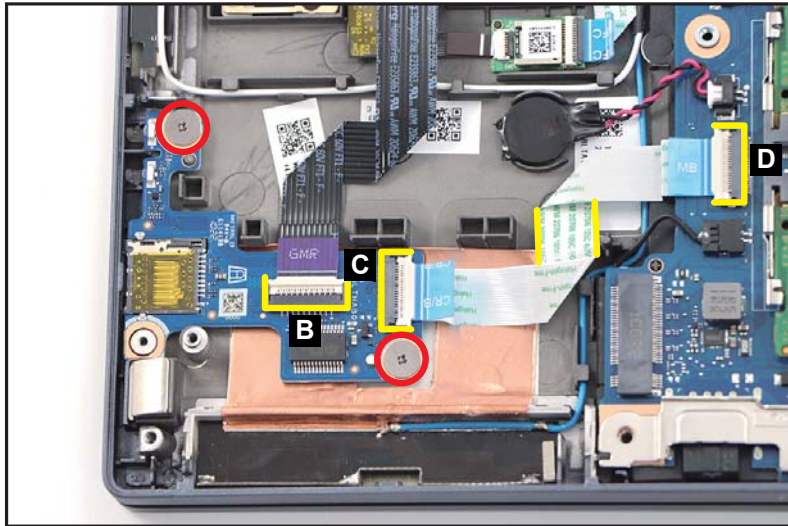

Figure 1-32. Card Reader Board Removal
2. Disconnect the smart card reader FFC from the card reader board connector (B) (Figure 1-32).
3. Disconnect one end of the card reader board FFC from the card reader board connector (C). Then disconnect the other end of the FFC from the mainboard connector (D) (Figure 1-32).
4. Remove two (2) screws securing the card reader board (Figure 1-32).
When removing the card reader board FFC, carefully lift the portion of FFC (highlighted by the yellow lines) to detach it from the adhesive tape underneath as shown in Figure 1-32.